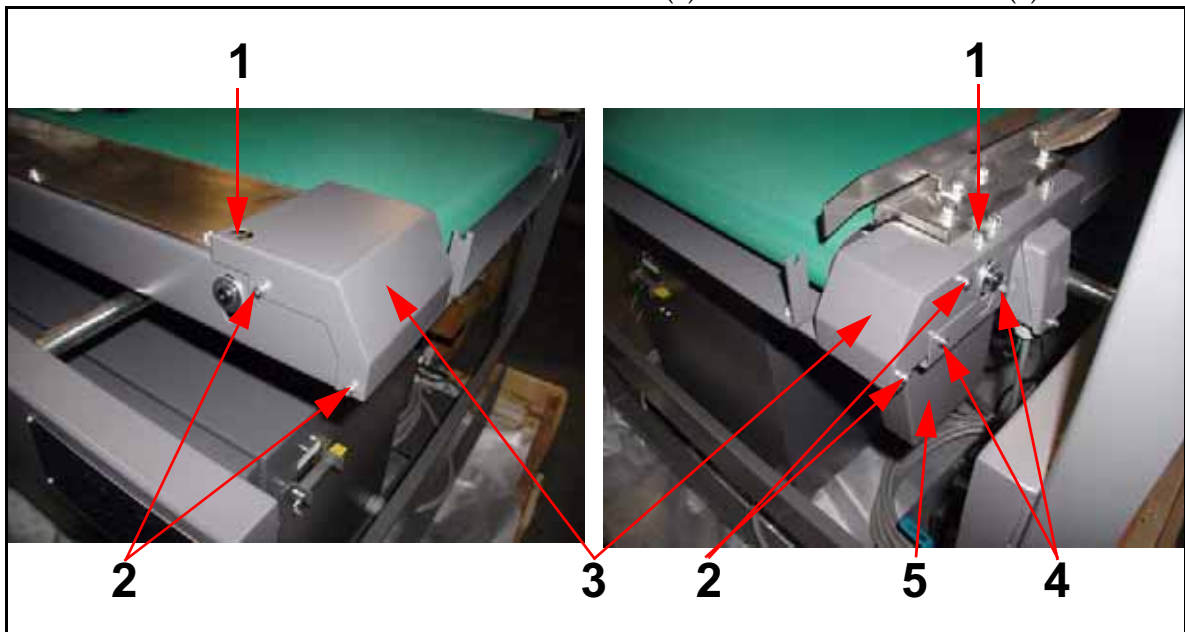

Figure 7-5. Conveyor Side Covers
- 1 Loosen conveyor tension screws (1 in Figure 7-5).
- 2 Unscrew side cover screws (2) and side remove covers (3).
- 3 Unscrew chain cover screws (4) and remove side cover (5).